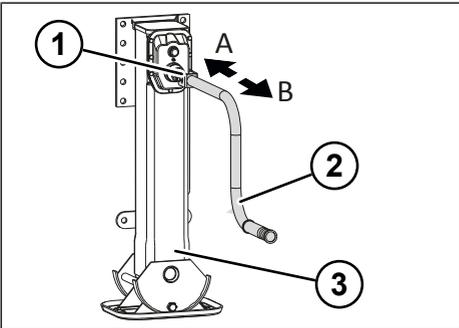

Fig. 5-3: Load speed and rapid speed of the landing leg winch
- ▶ Switch on rapid speed by pulling out the hand crank (see "Fig. 5-3: Load speed and rapid speed of the landing leg winch", pg. 22).
- ▶ Switch on load speed by pushing in the hand crank (see "Fig. 5-3: Load speed and rapid speed of the landing leg winch", pg. 22).
- ▶ Set to load speed by pushing in the hand crank (see "Fig. 5-3: Load speed and rapid speed of the landing leg winch", pg. 22).
- ▶ Set to high speed by pulling out the hand crank (see "Fig. 5-3: Load speed and rapid speed of the landing leg winch", pg. 22).